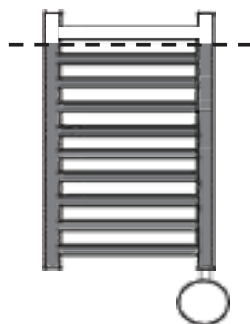

FIG. 4
- 6) Put the radiator back in vertical position and check the internal level of the liquid (fig. 4).